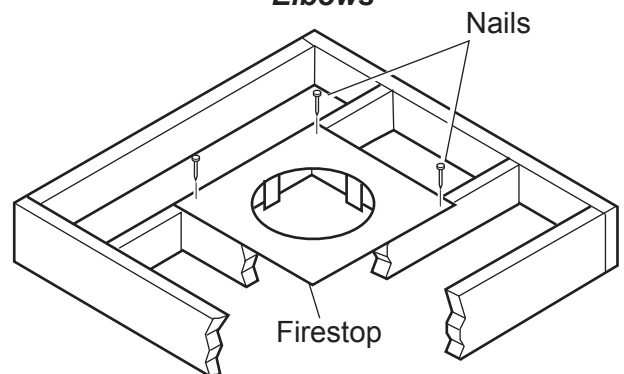
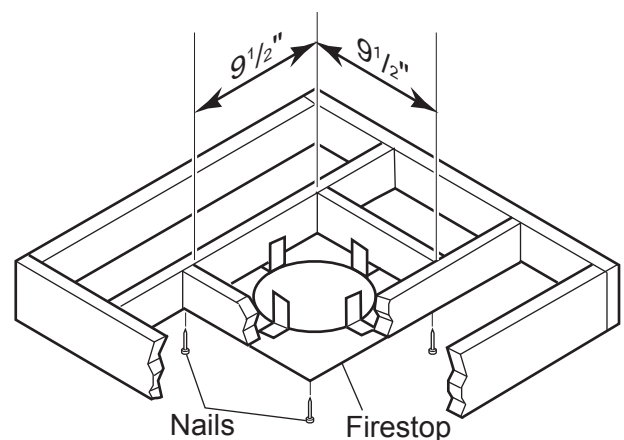

Figure 36 - If area above is a room, install firestop above framed hole as shown
Figure 37 - If area above is not a room, install firestop below framed hole as shown
1. Cut a 9 $\frac{1}{2}$ " (241mm) square hole in the ceiling using the locating hole as a center point. The opening should be framed to 9 $\frac{1}{2}$ "x9 $\frac{1}{2}$ " (241mm x 241mm) inside dimensions as shown in *Figure 37* using framing lumber the same size as the ceiling joist. If the area above the ceiling is an insulated ceiling or a room, nail firestop from the top side. This prevents loose insulation from falling into the required clearance space. See *Figure 36*. Otherwise, install firestop below the framed hole. See *Figure 20* on page 21.